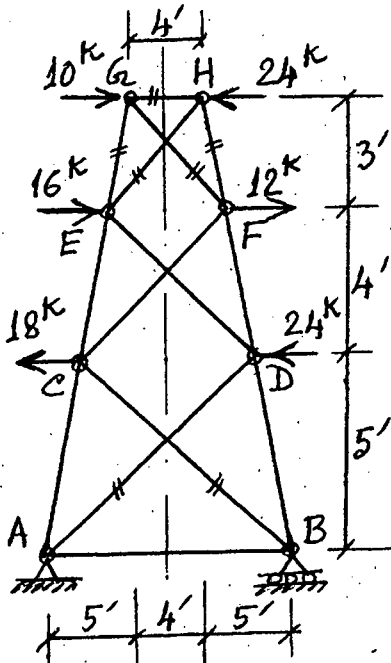

Fig. 8
9. Determine the forces in the bars AD, BC, GH, GE, HF, GF and EH of the structure shown in Fig. 8. Use approximate method of analysis. (21)